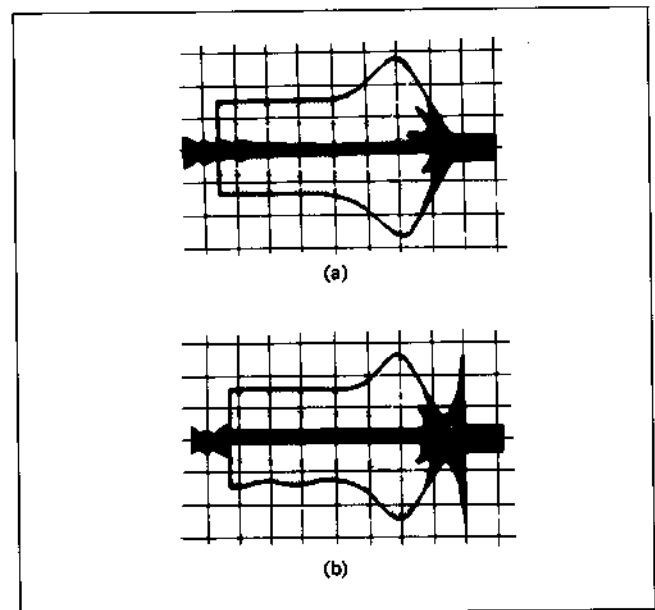

Fig. 7-39.
- 4) Verify that the exit free waveform is within the range specified by the graphs (a) and (b) in Fig. 7-39.